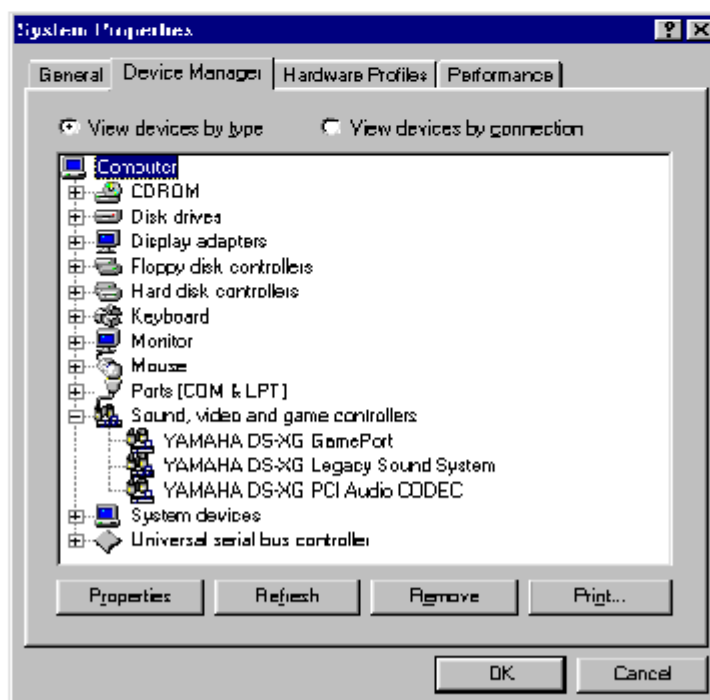

Figure 2-2 The system properties for Device Manager
- 4) The System Properties window now appears. Click on the **Device Manager** table as shown in Figure 2-2 below.